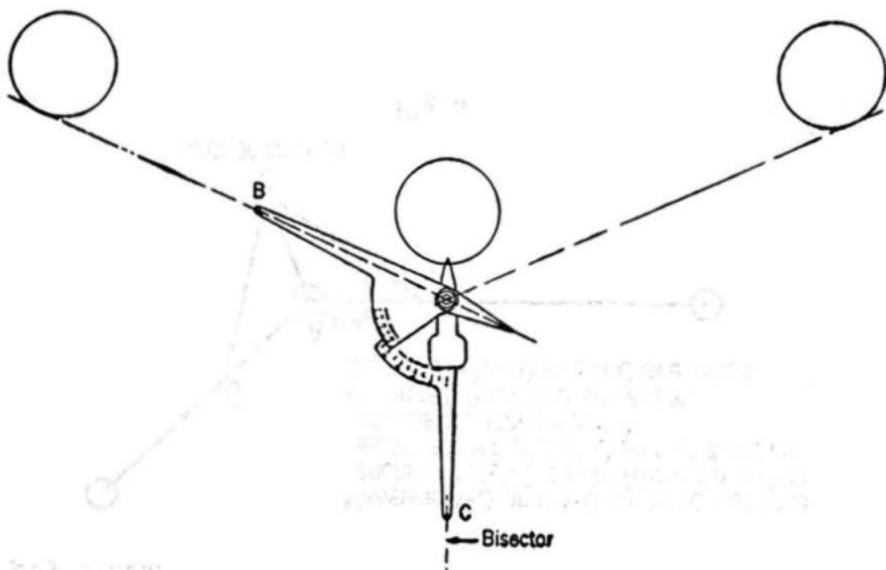

Fig. 9
- (2) Without disturbing the leg B swing leg C away from the pole until the bisector index (located just beyond the 40-foot mark on the pull scale) points to the pull reading (obtained in (1) above) as read on the corner bisector scale on leg B. (See Fig. 9)
- (3) Leg C is now in line with the bisector of the corner angle and the anchor or guy stub should be located in line with the back sight and the front sight on leg C. If the anchor or guy stub location is so far away that the sights on the pull finder can not be observed accurately, place a digging bar or a ranging rod on the bisector line, a few feet away from the pole where the pull finder sights may be easily observed. The anchor or stub may then be located in line with this marker and the corner pole. ↙